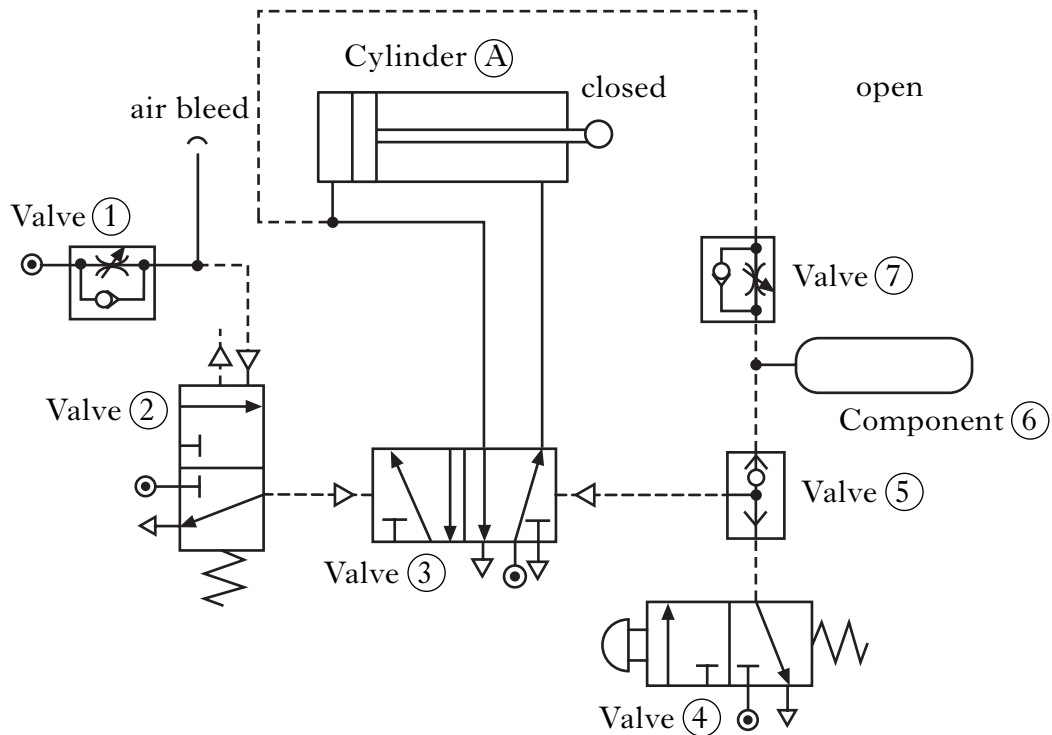

Figure Q8
8. The design for a pneumatic door is shown in Figure Q8.